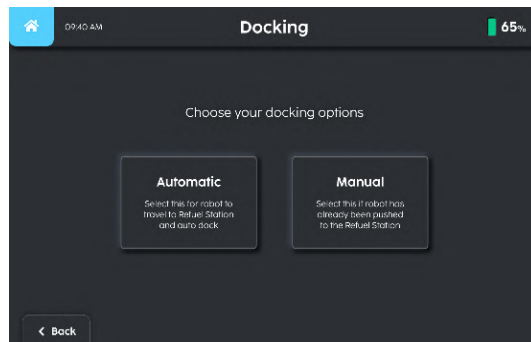

FIGURE 12-5
3. Select the preferred method of docking the machine via Automatic or Manual Mode (**Fig. 12-5**).
- Select the 'Manual' option to dock the machine (**Fig. 12-5**).